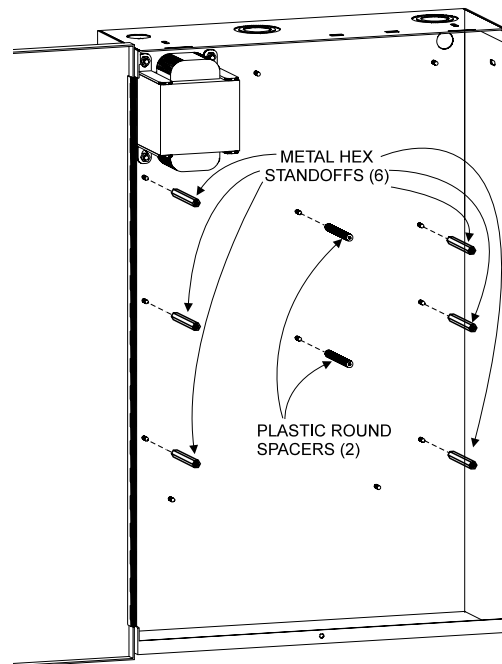

Figure 5
- 4. Install the PC Board mounting metal hex standoffs and plastic spacers.** Mount the six PC Board metal hex standoffs and two plastic round spacers, as shown in Figure 5.